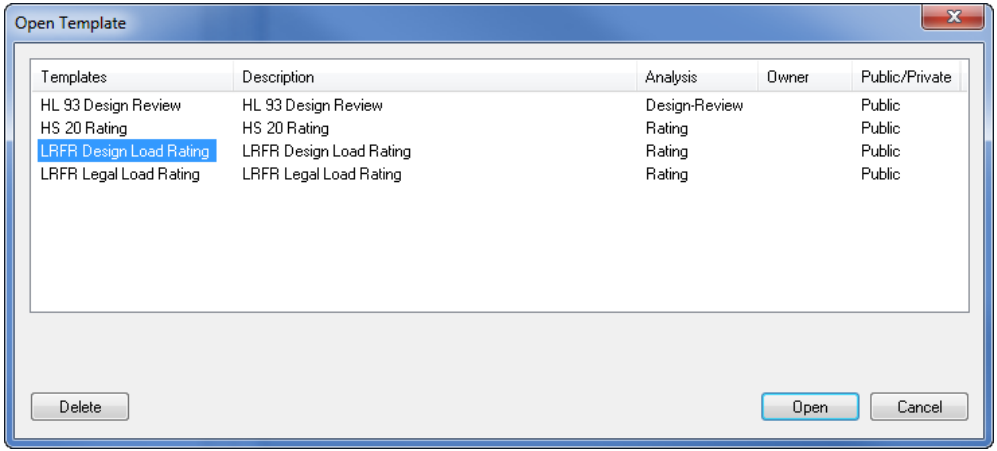

Fig 11. Open Template Window – LRFR Template selection
Select “LRFR Design Load Rating” Template from Template Library (Fig 11). Click on “Open” button to apply it to Analysis Settings. Select G2- Plate Girder (E) (C) and click “Analyze” Button (Fig. 5) on toolbar to run analysis. Once Analyze button is clicked, Analysis Progress window pops up. After analysis is completed click on “OK” button to close Analysis Progress window.